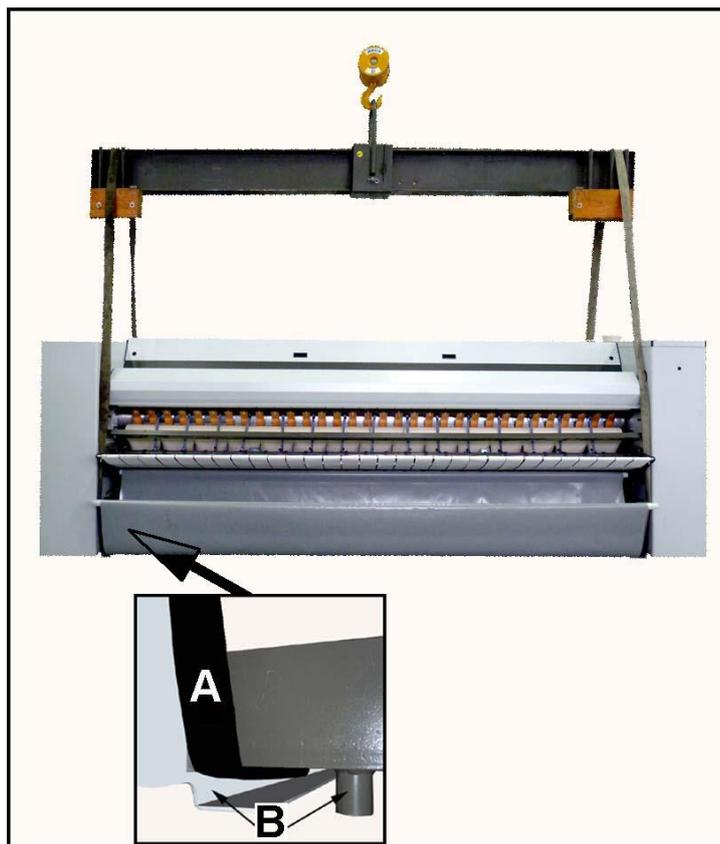

Fig. 2.6
**Hoist and slings** (Figure 2.6)
It is essential to use a beam (Fig. 2.6) that prevents damage to the feeding trays, the folder output trays and rear covers.